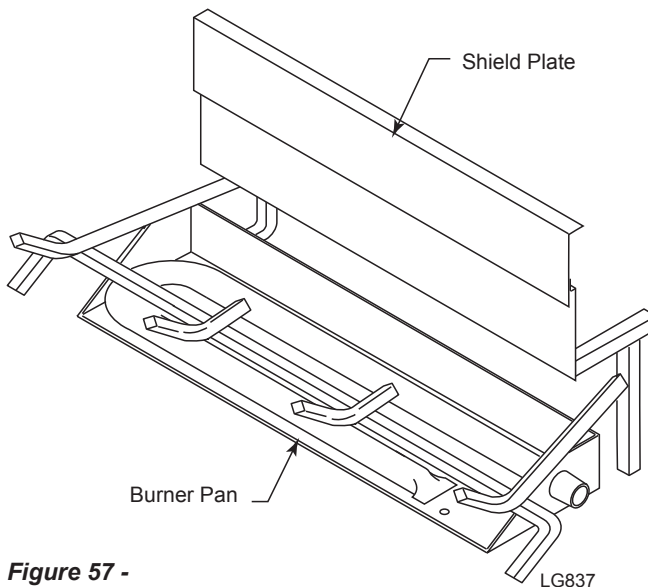

**Figure 57 -
1. Slide shield plate behind burner pan. *Figure 57*